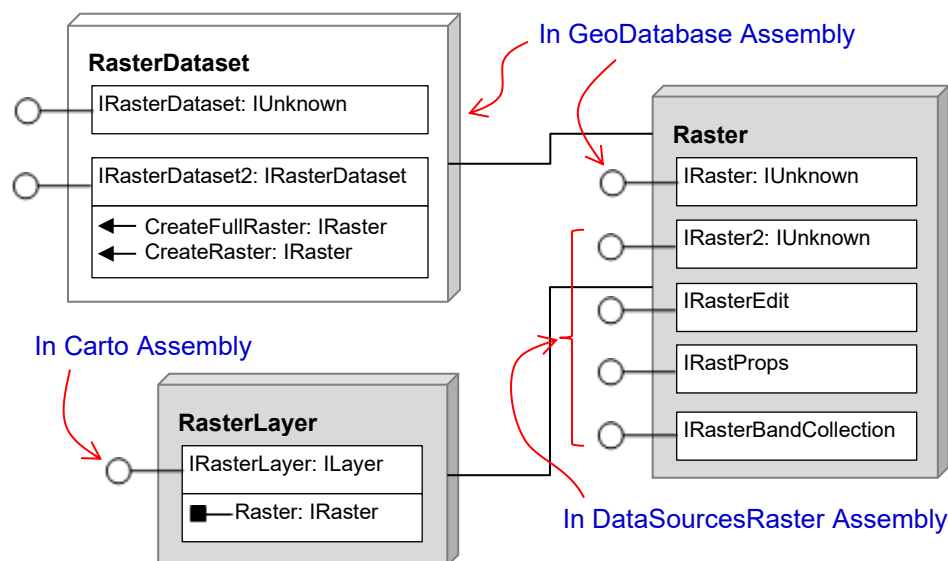
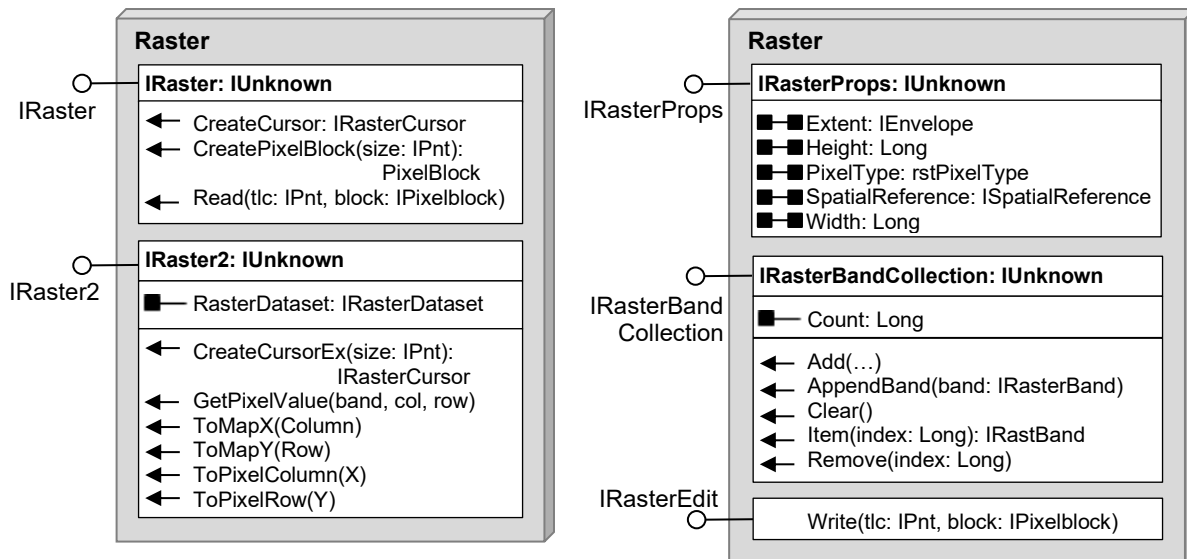

Figure 2 Ways of obtaining raster objects
Figure 3 A few important interfaces of the Raster Class
To find the value of a pixel in a raster layer, we need to use the raster object. A raster object is similar to a feature class object in that both are data loaded into the memory and both can be set to and get from a layer object, although a feature class is related to a vector layer while a raster related to a raster layer. Unlike FeatureClass which is a regular class, the Raster class is a co-class so that it can instantiate new raster objects in certain situations. A raster object can also be obtained from a raster layer in a map document in ArcMap (Figure 2). A raster object provides methods for getting pixel values, adding pixel data such as bands and pixel blocks, as well as saving itself as a raster dataset on the hard drive.
The Raster class has many interfaces that can be freely switched from one to another by Query Interface (QI). Figure 2 lists five frequently used interfaces which are managed in different ArcObjects assemblies. Interface IRaster2, which is contained in the DataSourcesRaster assembly, provides a method named GetPixelValue() that gets a pixel value at a given column and row (Figure 3). In addition, this interface contains four methods for converting between map coordinates and pixel columns and rows.